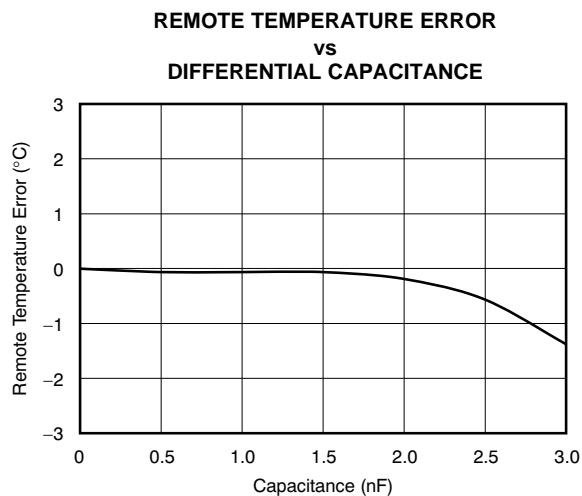

Figure 6.
(1) Diode-connected configuration provides better settling time. Transistor-connected configuration provides better series resistance cancellation.
(2) R_S (optional) should be $< 1.5\text{k}\Omega$ in most applications. Selection of R_S depends on application; see the Filtering section.
(3) C_{DIFF} (optional) should be $< 1000\text{pF}$ in most applications. Selection of C_{DIFF} depends on application; see the Filtering section and Figure 6, *Remote Temperature Error vs Differential Capacitance*.
(4) TMP422 SMBus slave address is 1001 100 when connected as shown.
The TMP422 tolerates differential input capacitance of up to 1000pF with minimal change in temperature error. The effect of capacitance on sensed remote temperature error is illustrated in Figure 6, *Remote Temperature Error vs Differential Capacitance*.